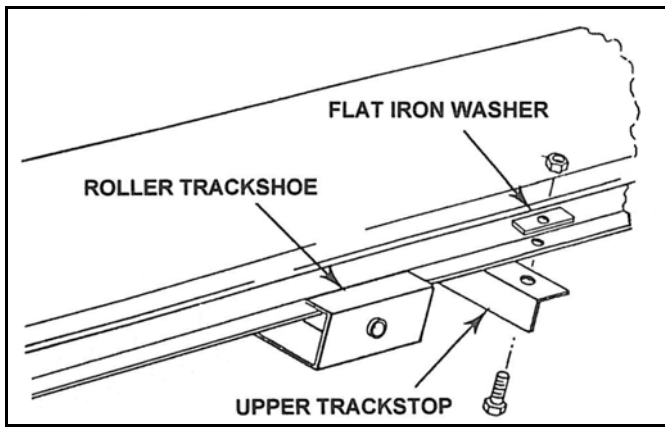

Figure 3.3
2. Attach the angle track stop to upper end of track at the set of bolt holes nearest to the intake using two 7/16" x 1-1/4" bolts, locknuts, and flat iron washers (see Figure 3.3). Make certain the flat iron washers are placed on top of track.